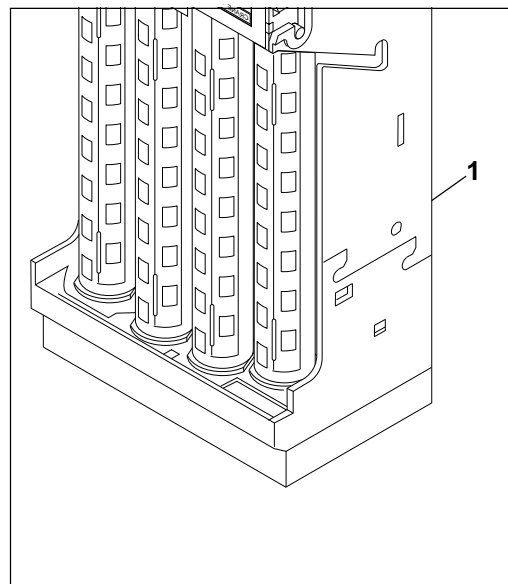

Fig. 14: Unfasten fastening screw
- It is absolutely necessary to unfasten the fastening screw (1) for the cashbox channel on the right hand side of the housing (fig. 14).